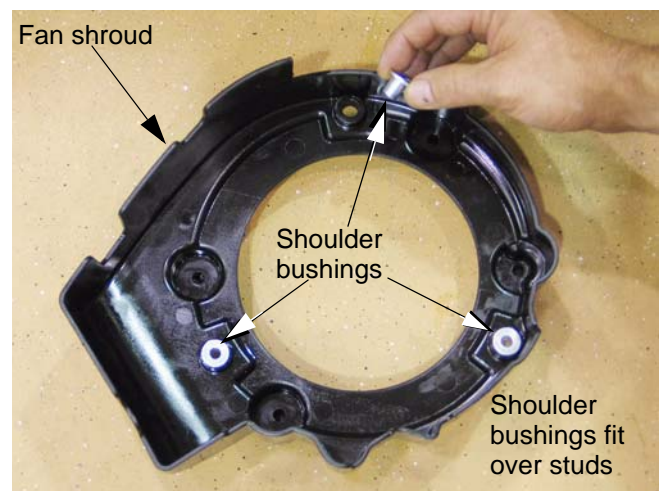

Figure 4.15
- 4b. Lift the fan shroud off of the three studs that locate it. See Figure 4.15.